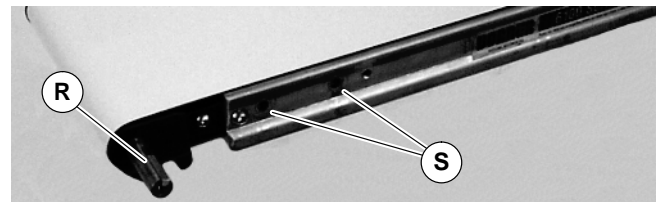

Figure 4
## 2. Locate drive output shaft (R of Figure 4) and remove two (2) screws (S).